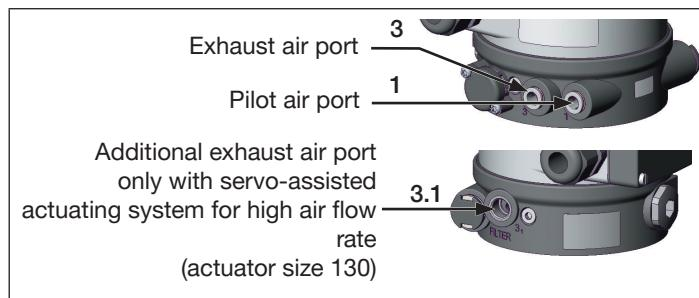

Fig. 9: Pneumatic connection
- Connect the control medium to the pilot air port ("Fig. 9": 1) (3–7 bar; instrument air, oil-, water- and dust-free).
- Install the exhaust air line or a silencer onto the exhaust air port ("Fig. 9": 3) and – if available – to the additional exhaust air port ("Fig. 9": 3.1).